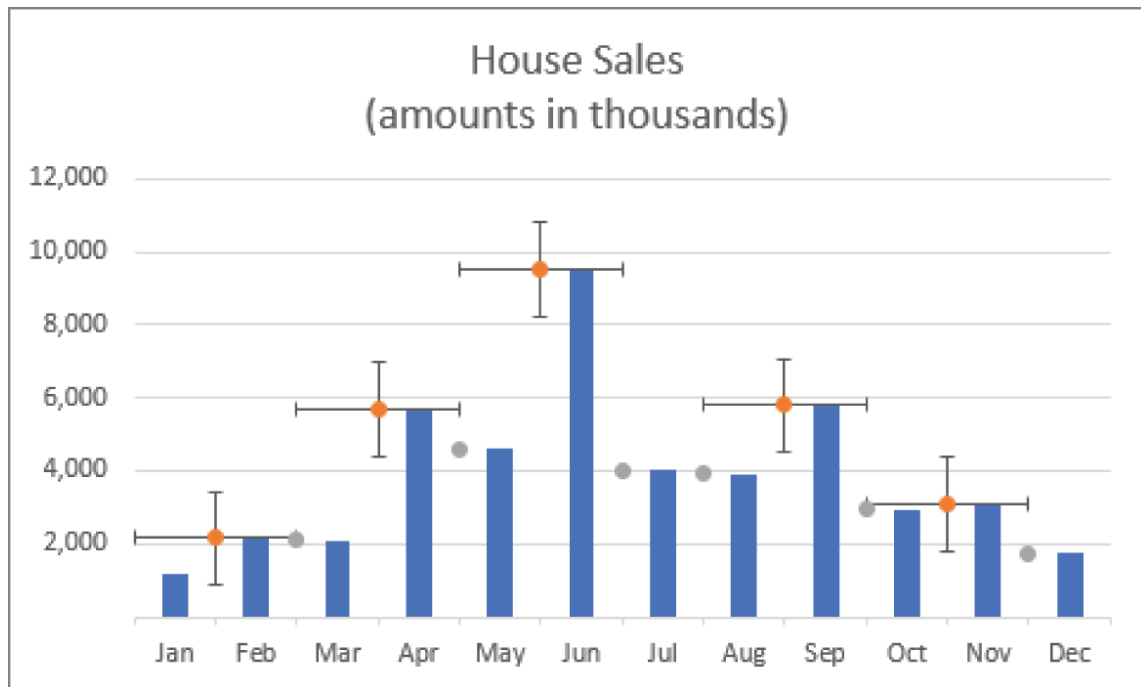

Figure 9.21: Error bars on the variance series
1. Select the increase series and check Error Bars on the onchart Chart Elements tool. Excel will add both vertical and horizontal error bars as shown in Figure 9.21.